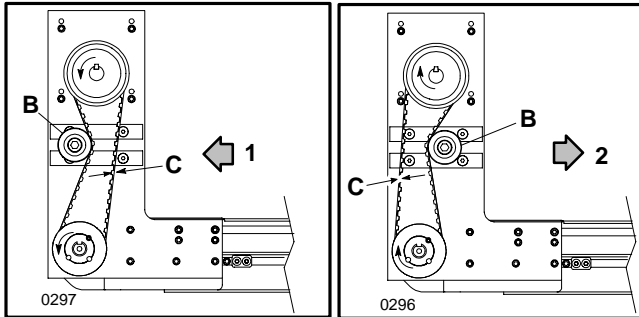
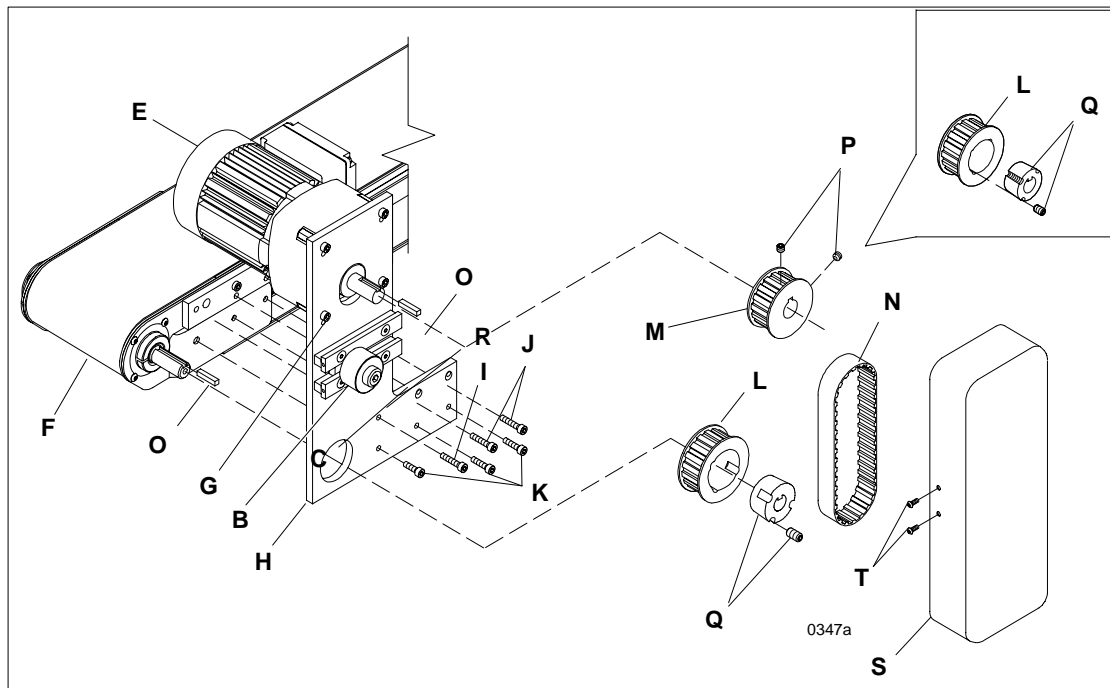

Figure 11: Top Drive Timing Belt Adjustment Detail
Figure 12: Top Drive Component Assembly Detail
1. Refer to Figure 12 and attach the gearmotor (**E**) and the mounting plate to the conveyor (**F**) using one M6 x 30 mm socket head cap screw (**I**) in the top mounting hole of the mounting plate, two M6 x 16 socket head cap
The upper set (of 4) gearmotor mounting plate holes (G of Figure 12) is only used when both gearmotor and conveyor shafts will have 16 tooth pulleys mounted to them. All other pulley combinations, use the lower set of mounting plate holes.
2. Assemble the drive and driven pulleys (**M** and/or **L**) and timing belt (**N**). Place a square key (**O**) into the keyway on the gearmotor and conveyor shafts. Install the pulleys so that the timing belt is centered on the belt tensioning roller assembly (**B** of Figures 11 & 12) and the pulleys are in line with each other. Tighten the pulley set screws (**P** of Figure 12) or Taper Lock[®] bushing screws (**Q**), which fasten the pulleys to the shafts. Determine which direction the conveyor belt is traveling and position the tensioning roller assembly on the slack side of the timing belt (Figure 11).
3. Adjust timing belt tension by loosening the M12 x 25 mm socket head cap screw (**R** of Figure 12) and sliding
- Adjust timing belt tension by loosening the M12 x 25 mm socket head cap screw (**R** of Figure 12) and sliding
the belt tensioning roller assembly (**B** of Figures 11 & 12) against the belt. Tension should be measured at mid-point (**C** of Figure 11) of on the tension side of the timing belt. As a starting point for the tensioning process, there should be a 1/8" (3 mm) deflection with 6 lb (3kg or 26 N) of force.
- Attach the top drive cover (**S** of Figure 12) using four M4 x 10 mm button head cap screws (**T**).